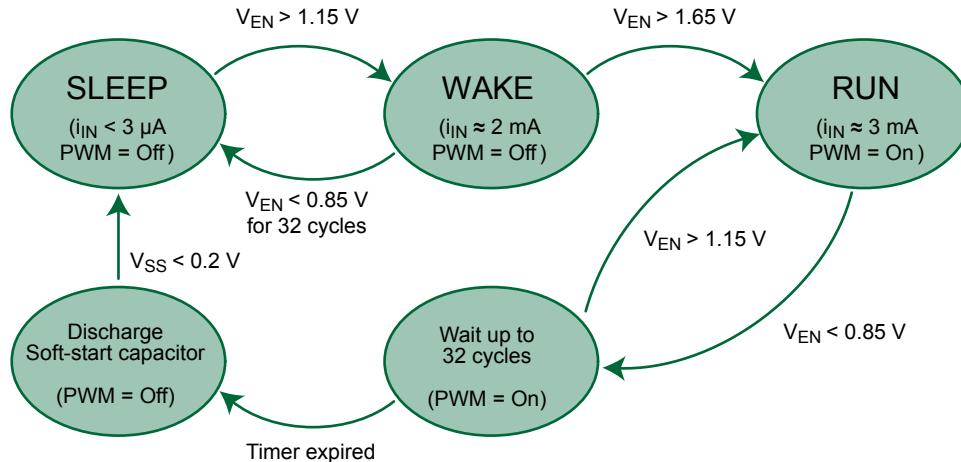

Figure 3. EN/SYNC voltage and A8583 operating modes
- A simple logic input. If EN/SYNC is a logic low ( $V_{EN/SYNC} < V_{ENIL}$ ), then the A8583 and VOUT will be off. If EN/SYNC is a logic high ( $V_{EN/SYNC} > V_{ENIH}$ ), the A8583 will turn on and, provided there are no fault conditions, soft start will be initiated and VOUT will ramp to its final voltage in a time set by the soft start capacitor (CSS). (The operating modes of the A8583 based on EN/SYNC voltage are summarized in figure 3.)
The A8583 protects itself from over-heating, with an internal thermal monitoring circuit. If the junction temperature exceeds the upper thermal shutdown threshold ( $T_{TSD}$ , nominally 165°C) the voltages at the soft start and COMP pins will be pulled to GND and both the upper and lower MOSFETs will be shut off. The A8583 will stop PWM switching and stay in WAKE state (see figure 3). It will automatically restart when the junction temperature decreases more than the thermal shutdown hysteresis ( $T_{TSDHYS}$ , nominally 20°C).